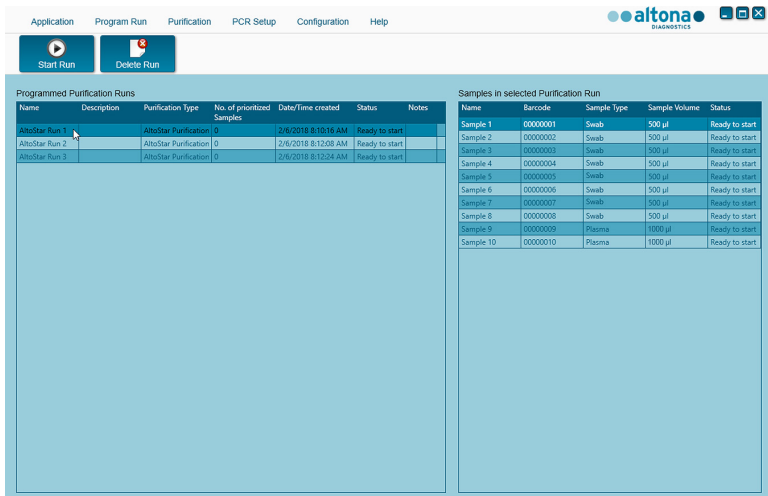

Figure 9: Start Purification Run Screen
- The Start Purification Run Screen is displayed (see Figure 9). Each programmed AltoStar® Run includes one Purification Run.